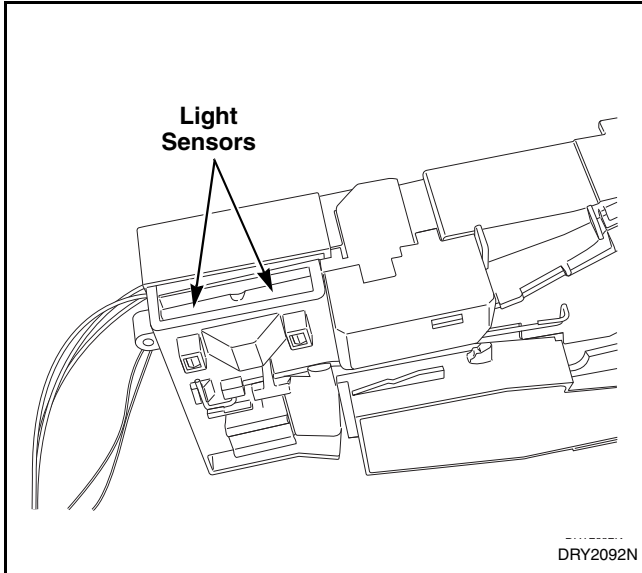

Figure 21
g. Clean light sensors with a soft brush or air spray duster. Refer to *Figure 21*.